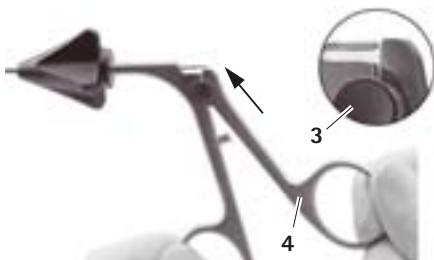

Fig. 10
- Hold working insert 7 and push up moveable handle part 4 until button 3 engages, see Fig. 10.